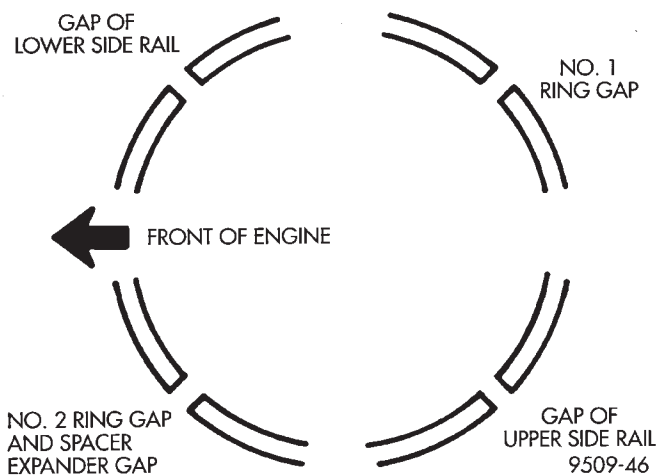

Fig. 84 Piston Ring End Gap Position
(1) Before installing pistons and connecting rod assemblies into the bore, be sure that compression ring gaps are staggered so that neither is in line with oil ring rail gap.
(2) Before installing the ring compressor, make sure the oil ring expander ends are butted and the rail gaps located as shown in (Fig. 84). As viewed from top.